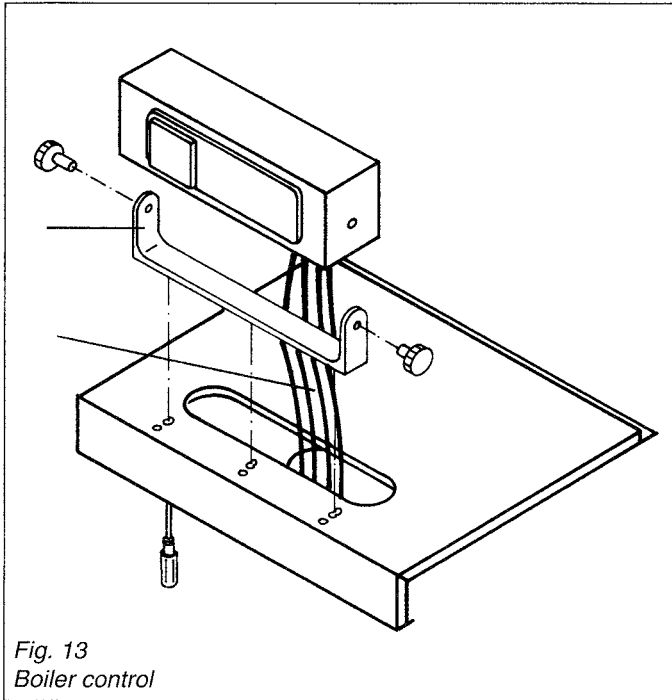

Fig. 13
6. Attach the boiler control. The boiler control will be either the SR-V, SR-VR, or the Trimatik control (see Fig. 13). Refer to instructions packaged with control.
7. Route capillaries and sensors from the control to the 5-point stainless steel well. Route the electrical cable with the male 7-pole plug towards the front of the boiler and out the plastic strain relief on the front panel. Route appliance cord for incoming power through rear of top panel. Refer to wiring instructions packaged with control. The Trimatik-MC has a terminal box which is placed under the top panel. The SR control does not have this terminal box (see Figs. 13, 14, and 16).